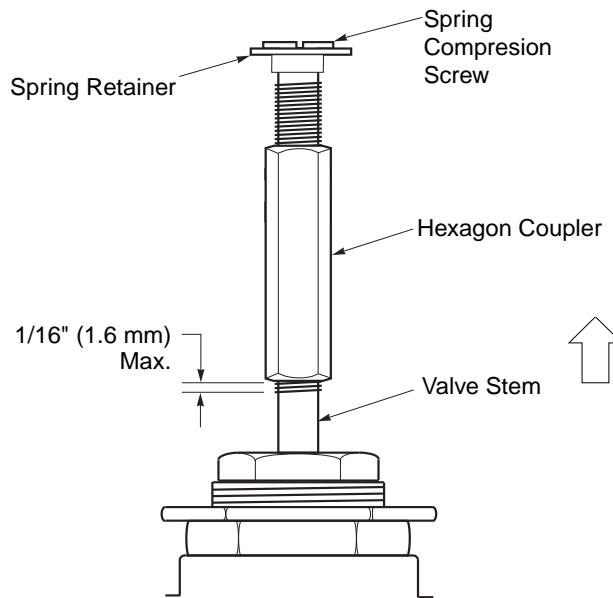

Figure-1 Installation of Hexagon Coupler and Spring Compression Screw.
- Select the appropriate spring(s) as detailed in Figure-1.
- Thread the hexagon coupler onto the valve stem all the way to the bottom of the stem thread, finger-tight (Figure-1). Pull the valve stem completely up.